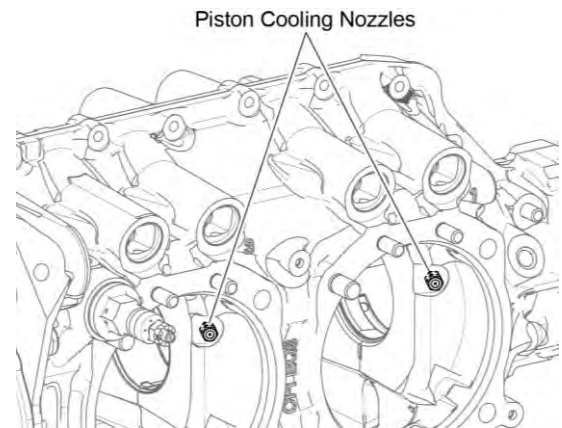

Figure 55
- (10) If the gage does not move freely between the ends and under the top of the circlip, the circlip seating is not correct. Install the circlip again and complete a check of the circlip seating again per the previous steps. The circlip must be seated correctly.
- B. Install two piston cooling nozzles in each crankcase half (Figure 55).